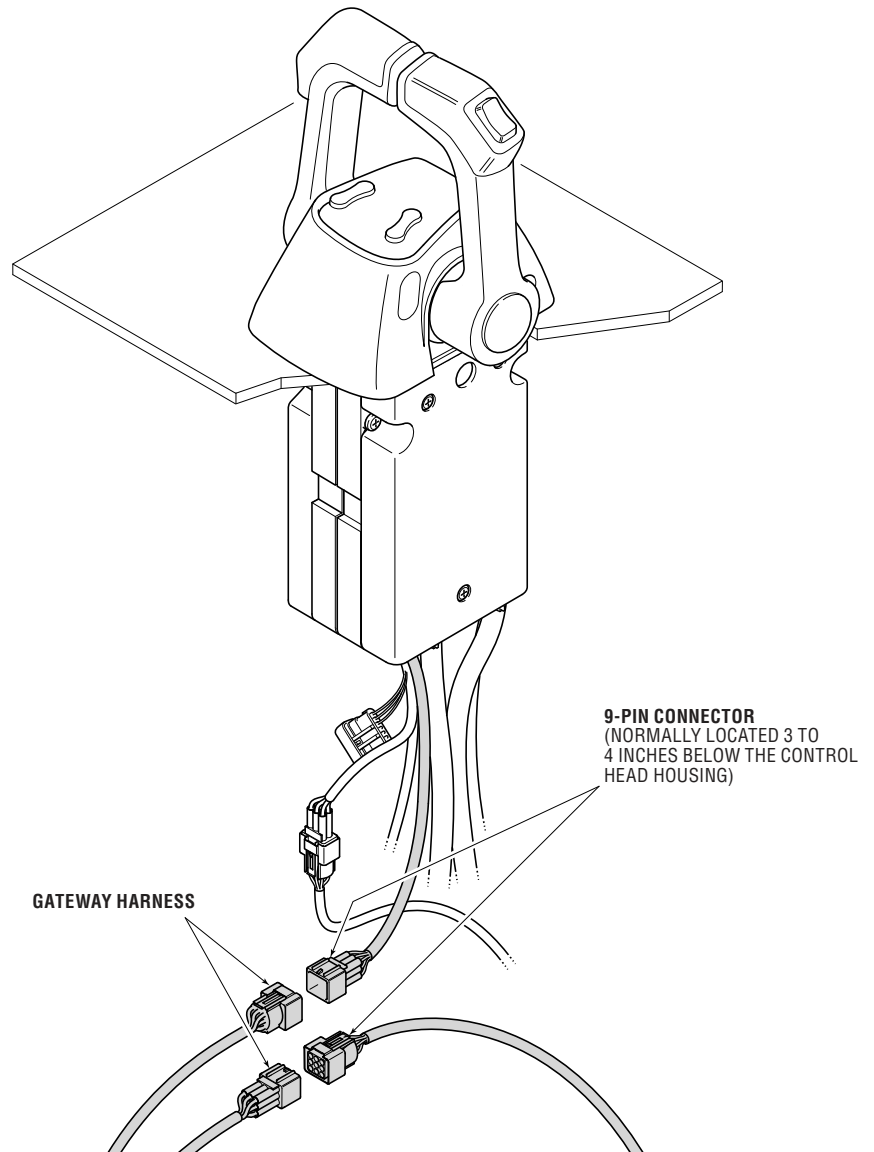

Figure 7-5. Status LED connector identification and connection.
11. Twins and triples: From behind the dash, find the 9-pin connection from the control head, disconnect it, and plug the connectors to the portion of the gateway harness labeled 'LED' (Refer to figure 7-5).